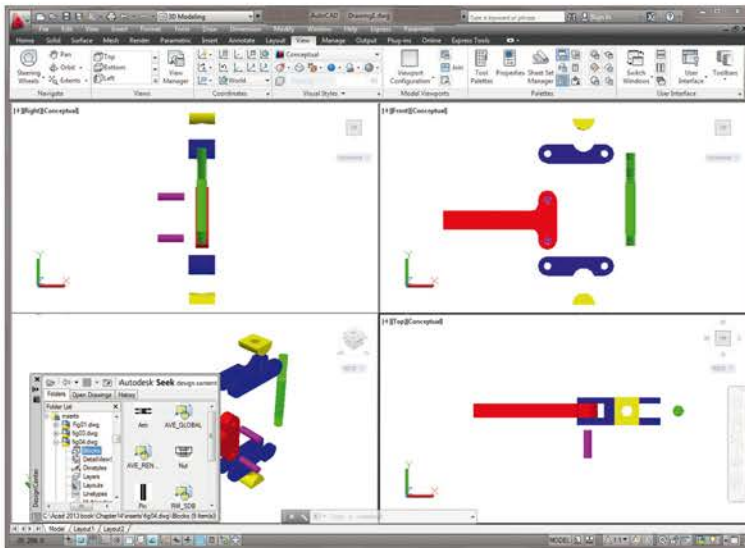

Fig. 11.3 First example – Inserting 3D blocks
6. *Drag* and *drop* the blocks one by one into any one of the viewports on screen (Fig. 11.3). As the blocks are *dragged* and *dropped* on screen, they will need moving into their correct positions in suitable viewports using the **Move** tool from the **Home/Modify** panel.
4. The examples of a **Four: Equal** viewports screen shown in Figs 11.3 and 11.4 are in **First** angle. The front view is top right; the end view is top left; the plan is bottom right.